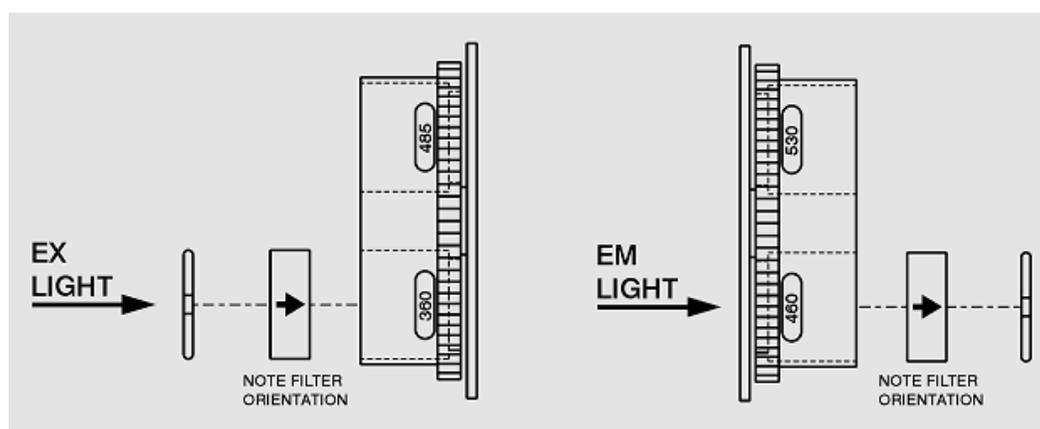

Figure 4-1: Diagram showing the proper orientation of the filters in their wheels
1. Ensure that all filters and/or plugs are inserted properly (see Figure 4-1).
2. Orient the filter or plug (see Figure 4-1): Observe the arrow on the filter indicating the light direction. Align the filter’s wavelength number with the window in each filter holder, then drop it into the desired location.